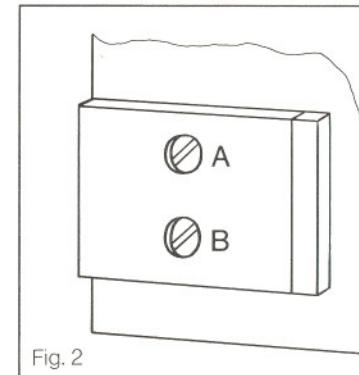

Fig. 2
- After turning the plastic feet of the metal housing by 180° the SI 1019 A is stackable with other units. For that unscrew screws A and B and turn the feet (see fig. 2 + 3).